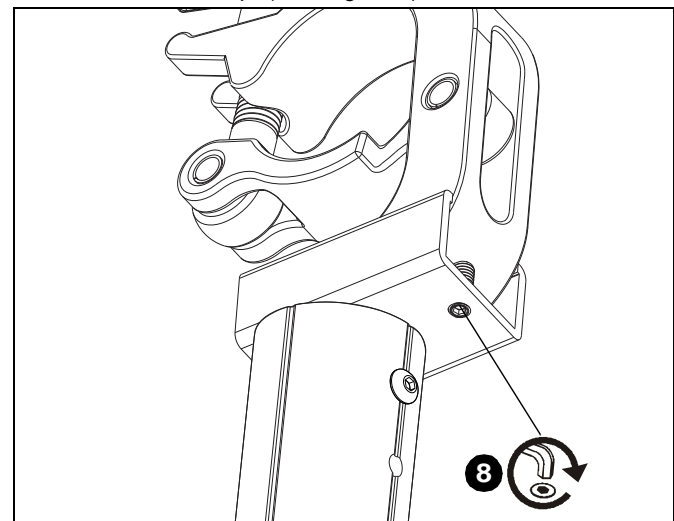

Figure 5
8. Use M3 hex key (E) to tighten set screw until screw engages with back of clamp. (See Figure 5)